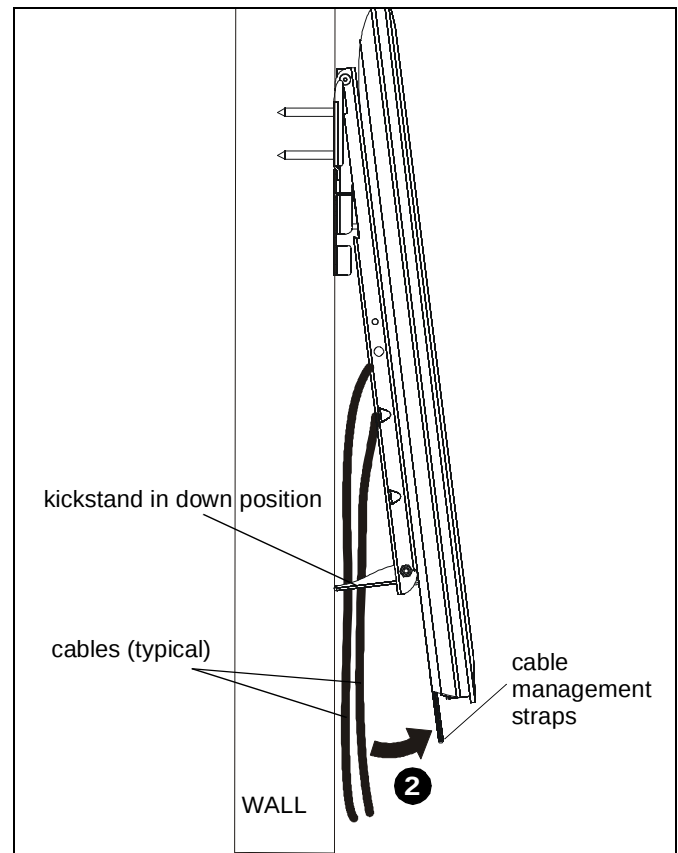

Figure 7
2. Slowly pull bottom of display away from wall until kickstand fully reaches its down position. (See Figure 7)
5. To disengage kickstand, slightly pull display away from wall and pull down on cable management straps to release kickstand. Slowly allow display to return to the wall. (See Figure 7)